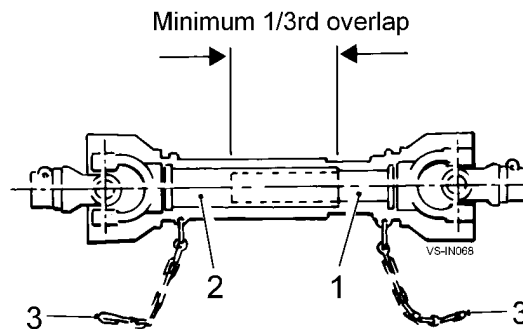

Fig 2
1. Separate the male shaft (item 1, fig 2) and female shaft (item 2, fig 2) and fit them to the tractor and harvester respectively.
7. Finally, attach the safety chains (item 3, fig 2) to secure anchoring points on the tractor and machine ensuring that the chains will not over-tighten when the machine is turning.